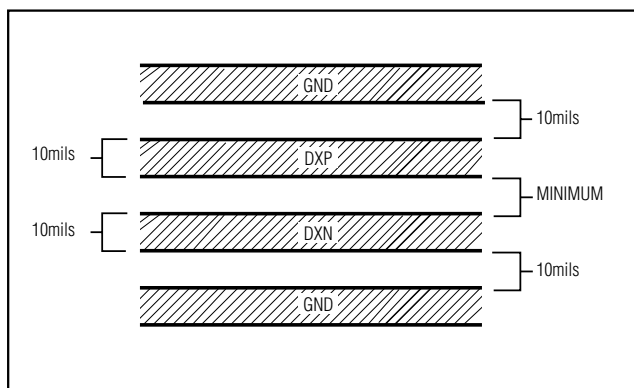

Figure 2. Recommended DXP-DXN PC Trace
- 3) Route the DXP and DXN traces in parallel and in close proximity to each other, away from any higher voltage traces, such as 12VDC. Leakage currents from PC board contamination must be dealt with carefully since a 20M Ω leakage path from DXP to ground causes about a 1°C error. If high-voltage traces are unavoidable, connect guard traces to GND on either side of the DXP-DXN traces (Figure 2).
- 6) The 10mil widths and spacings that are recommended in Figure 2 are not absolutely necessary, as they offer only a minor improvement in leakage and noise over narrow traces. Use wider traces when practical.